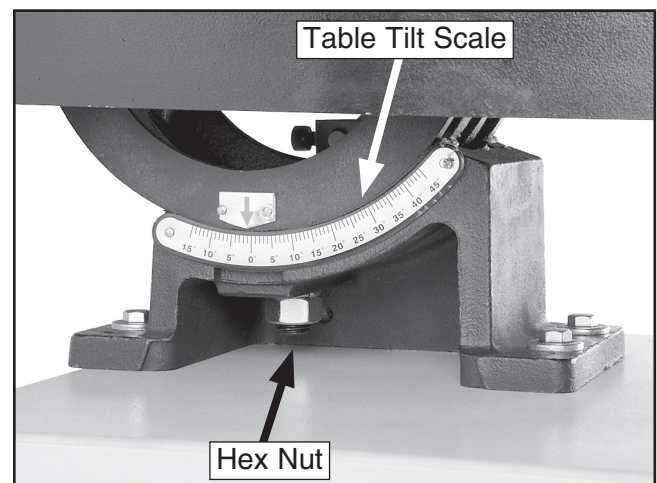

Figure 25. Table tilt scale and hex nut.
- Use a 23mm wrench to loosen the hex nut underneath the rear of the table (see **Figure 25**).